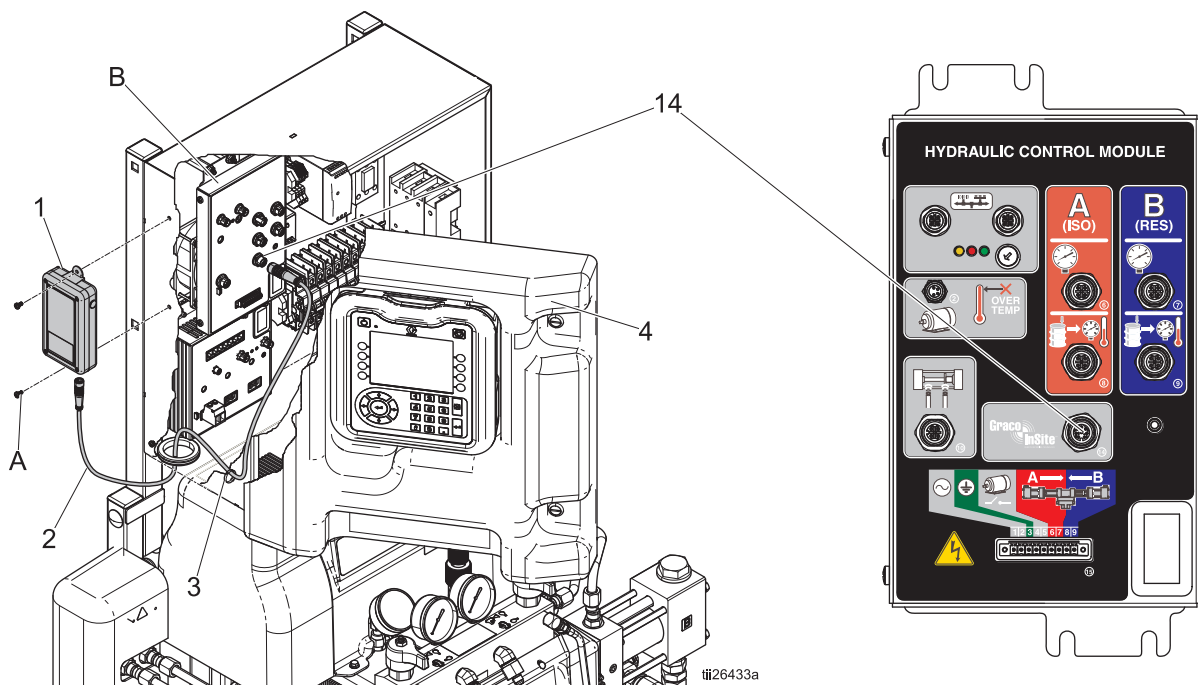

FIG. 2: Install Cellular Module
1. Use two bolts (A) to secure cellular module (1) to electrical enclosure. See FIG. 2.
2. Connect 4-pin end of cable (2) to cellular module (1) connector.
3. Route cellular module cable (2) through wire tie (3) to MCM (B). Secure with wire ties (3) as needed.
4. Connect other end of cellular module cable (2) to MCM (B) connector 14.
5. Place Graco InSite label (4) on front shroud as shown.
3. Route cellular module cable (2) through wire tie (3) to HCM (B). Secure with wire ties (3) as needed.
4. Connect other end of cellular module cable (2) to HCM (B) connector 14.
5. Place Graco Insite label (4) on front shroud as shown.